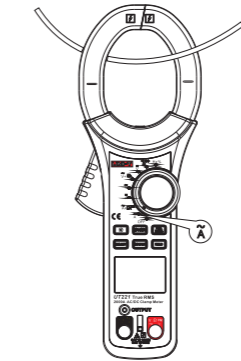

Figure 10
8. AC current measurement (\tilde{A}) (See Figure 10)